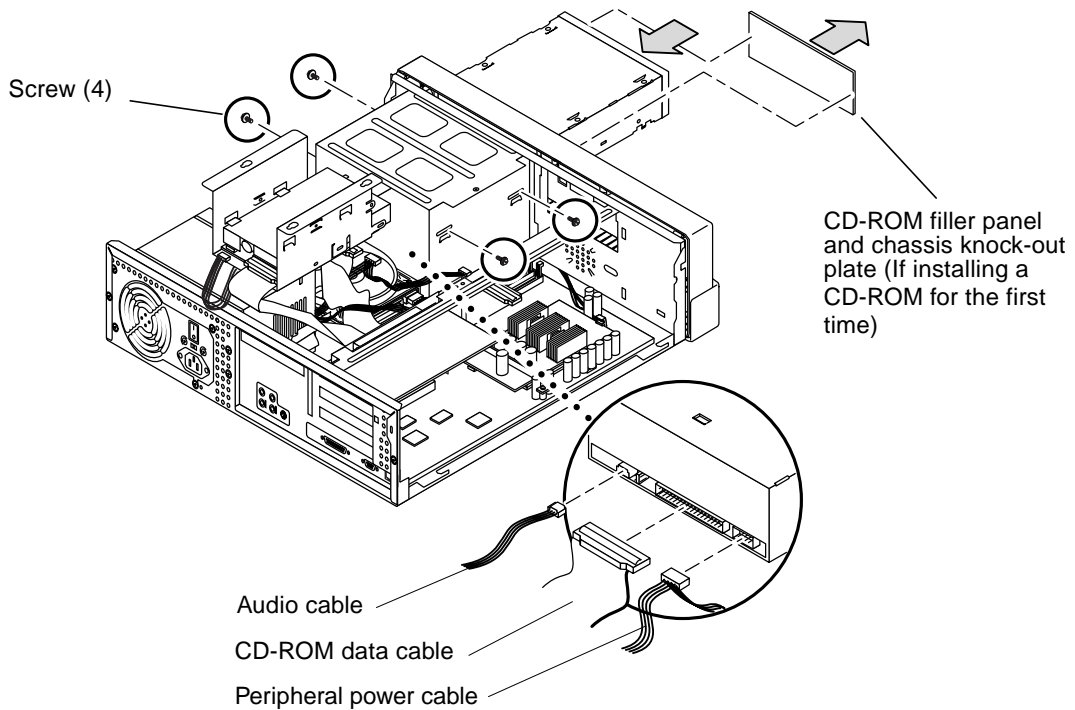

FIGURE 8 Installing or Replacing a CD-ROM Drive (Ultra 5)
4. Position the CD-ROM drive into the CD-ROM drive bracket by aligning the bracket holes with the CD-ROM mounting holes. (FIGURE 8).
7. Connect the following cables to the rear of the CD-ROM drive (FIGURE 8):
- a. **Disconnect the power cable connector, audio cable, and the CD-ROM data cable connector from the back of the CD-ROM drive (see FIGURE 8). Move the power and CD-ROM drive cables out of the way.**
- g. **Connect the power cable connector, audio connector, and the CD-ROM drive data connector to the back of the CD-ROM drive (see FIGURE 8). Dress cables.**